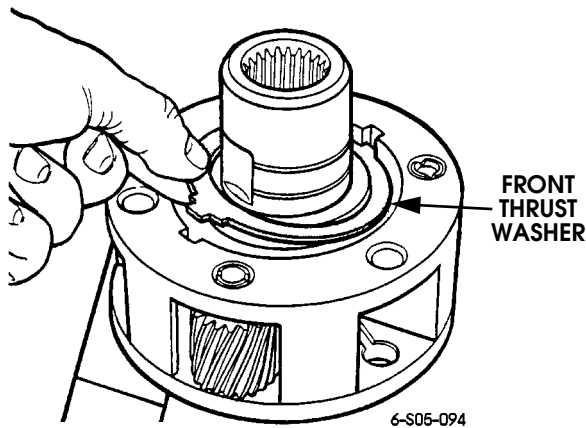

Figure 5-133: Front Thrust Washer Installation
- c. Install input gear in planetary (Figure 5-133).
- d. Install front thrust washer. Be sure washer tabs are seated in planetary notches as shown (Figure 5-133).